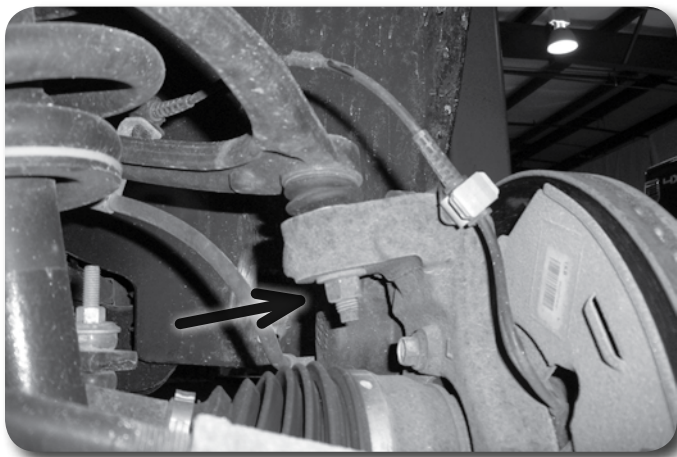

Figure 4
7. Remove the nut from the upper ball joint. **Figure 4** Thread the nut back on a couple of turns by hand. Strike the knuckle near the upper ball joint to dislodge the rod end taper from the knuckle. Remove the nut and allow the knuckle to swing rearward out of the way. Save the ball joint nut.